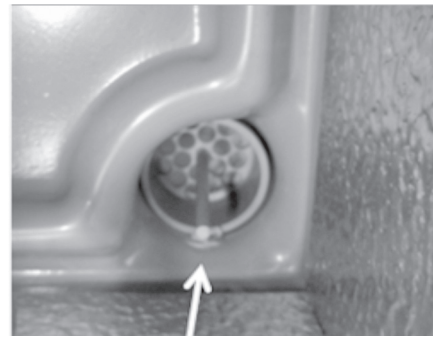

Fig. 14: Condensation drain with condensation strainer (AD)
7. In order to prevent the condensation drain (Fig. 13) of AD cabinets from becoming blocked, the condensation strainer must also be (Fig. 14) cleaned on a regular basis. The condensation strainer is available as a plastic or stainless steel model.